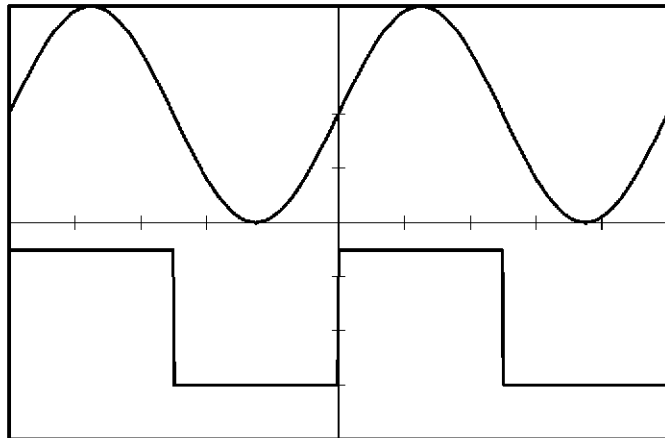

Figure 8-5 Waveform Verification for the Positive Sequencer Marker
14. Verify that the marker, which is high in a period in which the output signal is positive, is output as shown in Figure 8-5. (Verification of positive marker polarity)